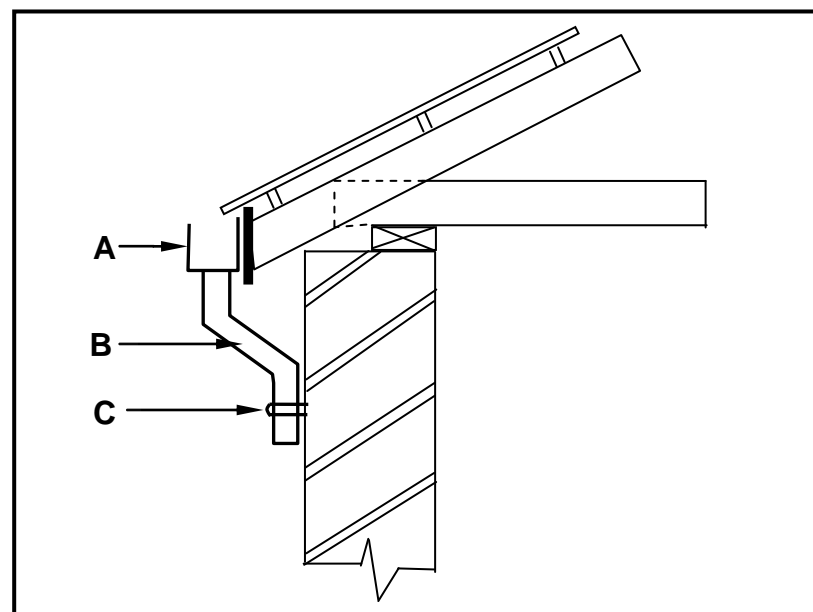

FIGURE 5.2
- 5.2 FIGURE 5.2 below is a drawing of a part of a roof. Study the drawing and answer the questions that follow.